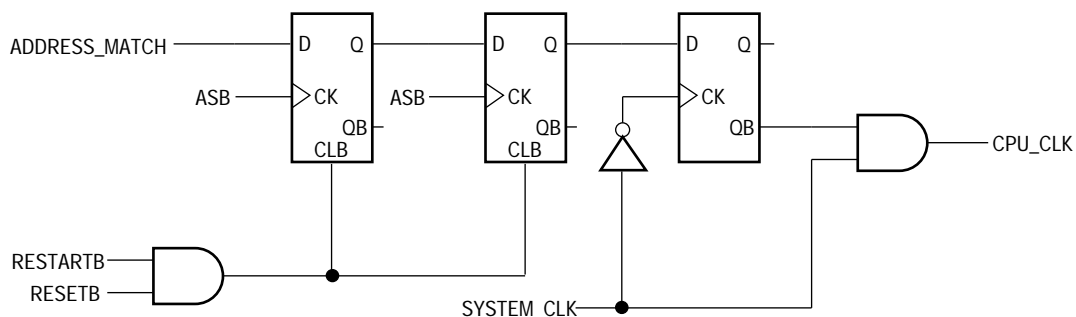
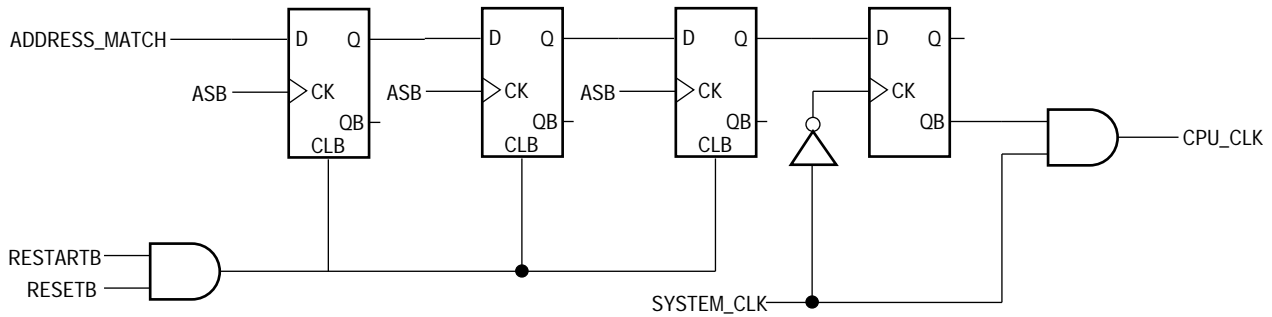
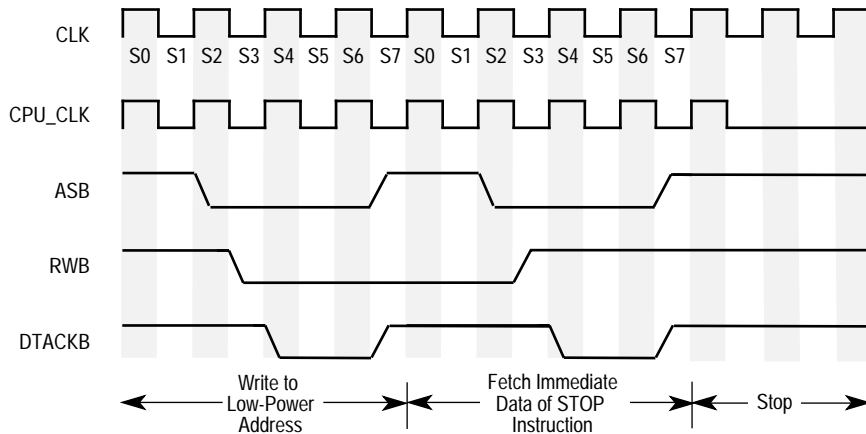

Figure 1. Low-Power Circuitry for 16-bit data bus
Figure 2. Low-Power Circuitry for 8-bit data bus
Figure 3. Clock Stop Timing for 16-bit Data Bus
- 1.) Externally detect a write to the low-power address. This address should be chosen by the user and can be any address in the 4 Gbyte addressing range of the SCM68000. A write to the low-power address can be detected by polling A31–A0, RWB, and FC2–FC0. When the low-power address is detected, RWB is a logic low, and the function codes have a five (101) on their output, then the processor is writing to the low-power address in supervisor mode and user-designed circuitry should assert the ADDRESS_MATCH signal shown in Figure 1 and Figure 2.
- 2.) Execute the STOP instruction. The external circuitry shown in Figure 1 and Figure 2 will count the number of bus cycles starting with the write to the low-power address and will stop the processor's clock on the first falling edge of the system clock after the bus cycle that reads the immediate data of the STOP instruction. Figure 2 has one more flip-flop than Figure 1 because the SCM68000 in 8-bit mode requires two bus cycles to fetch the immediate data of the STOP instruction. After the processor's clock is disabled it is often desirable to disable the clock to other sections of the user's circuit. This can be done, but care must be taken to ensure that runt clocks and spurious glitches are not presented to the SCM68000. A timing diagram is shown in Figure 3.